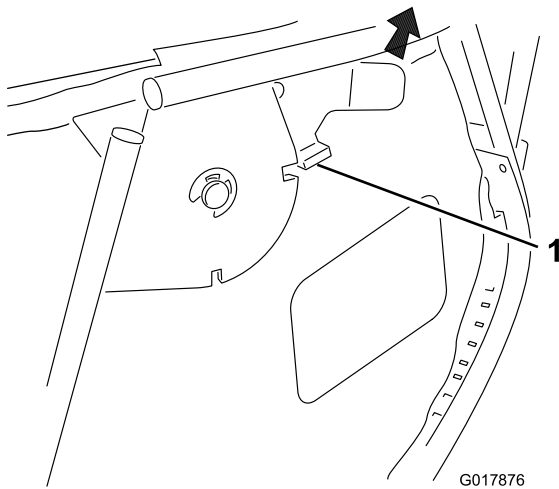

Figure 16
1. Disengage the locking latch (Figure 16).